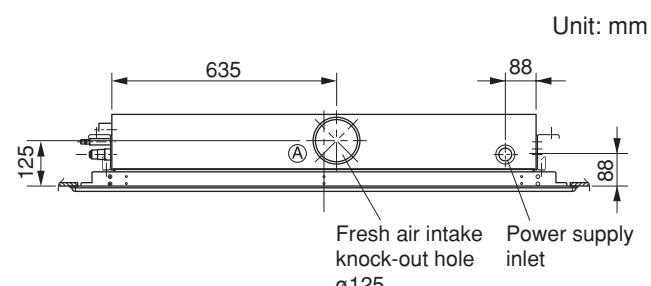

Fig. 3-22
- (5) If the system requires fresh air to be drawn into the unit, cut and remove the insulation (both externally and internally) at the location shown as A in Fig. 3-22.